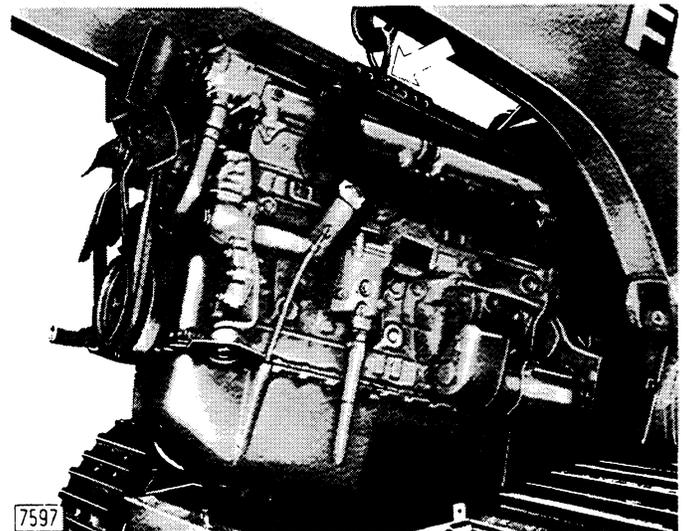

Fig. 9 - Removing (or Refitting) the Power Unit Using Lifting Hook No. 291493
- Place lifting hook **291493** on the engine, hoist to take up the weight of the engine, remove the rear left-hand mounting bracket, take off the rear right-hand mounting bracket with attached cushion pads, separate the front cushion pads from the machine frame and withdraw the complete power unit with attached torque converter assembly and drive shaft (see Fig. 9).
- Hook up using lifting hook **291493** and offer up the engine onto the machine (see Fig. 9).